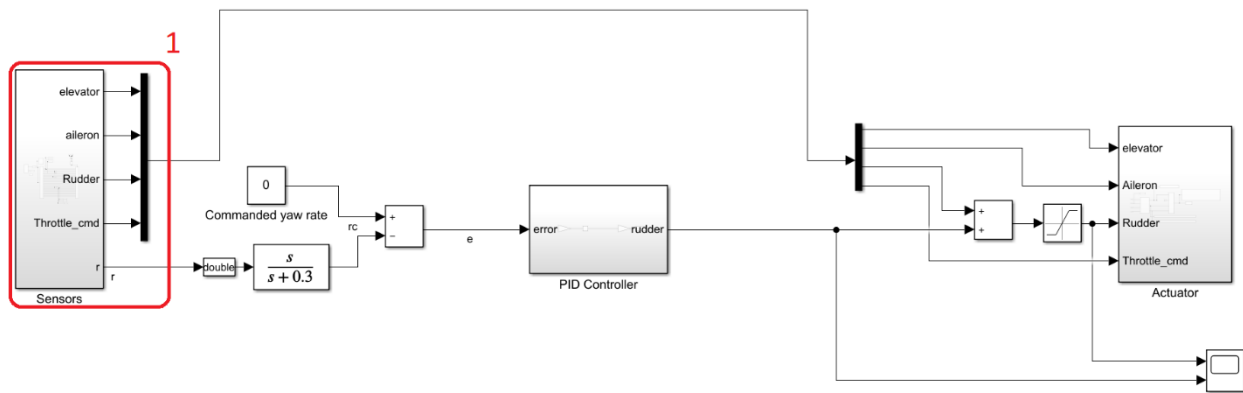

Figure 4: General controller model highlighting the “sensors” block
Step 4: (Only if the model is a Controller type) **Open** the Simulink model and **click** on the "sensors" block as shown in figure 4.